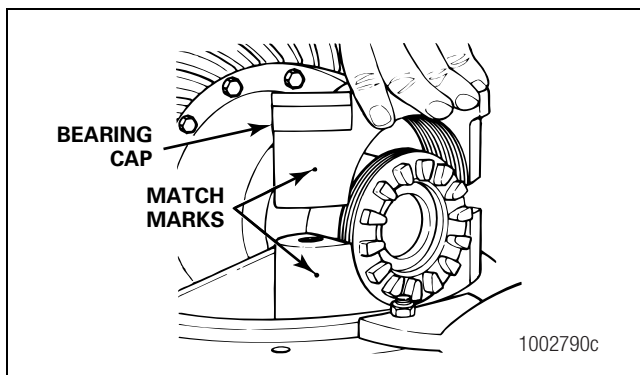

Figure 5.53
7. Install the bearing caps over the bearings and adjusting rings. Align the match marks you made when you removed the caps. Figure 5.53.